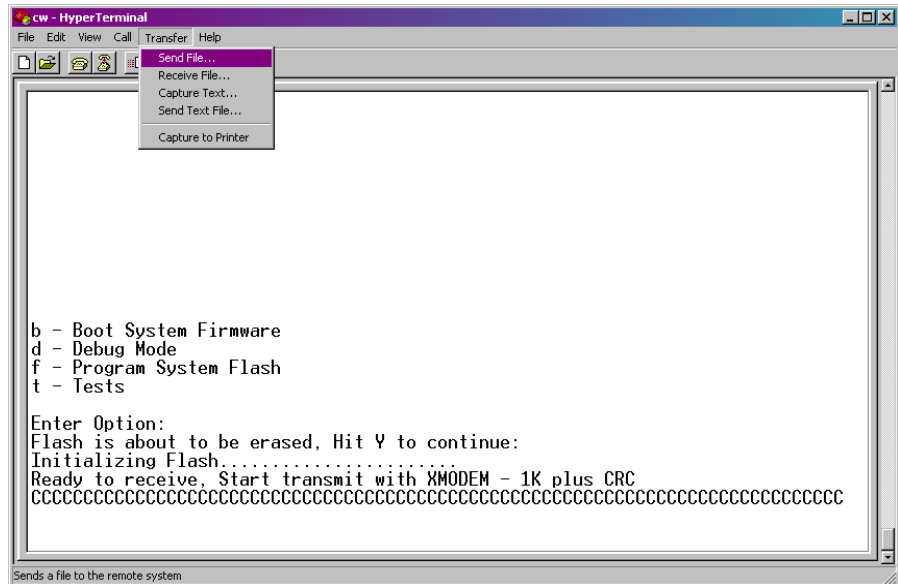

Figure 5-2. HyperTerminal (Ready to Download)
7. When the FLASH is ready for download, HyperTerminal repeatedly displays the letter C on the screen. In the HyperTerminal menu bar click **Transfer > Send File** (see *Figure 5-2*).